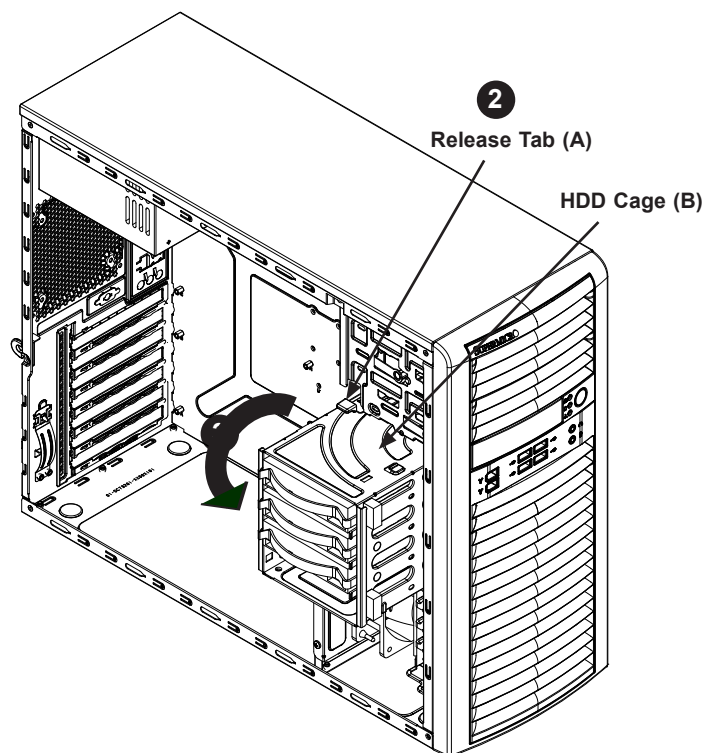

Figure 3-10. Rotating the Hard Drive Cage
1. To rotate the hard drive cage, lift the release tab (A) as shown in Figure 3-10.
2. Rotate the hard disk drive cage (B) outward.